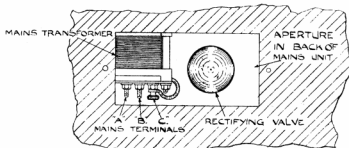

Fig. 2.
3. Adjust the connections to the Mains Power Transformer to suit the voltage of the supply mains. It will be seen that there are three terminal screws fitted to the underside of the Mains Transformer and on one of these is a milled terminal nut (see fig. 2). The flexible lead fitted with an eyelet which is temporarily secured by the milled terminal nut should be connected to the correct terminal screw to suit the voltage of the supply mains in accordance with the following table (see also fig. 2):—
4. Insert the H.T. Rectifying Valve (Philips 506K) in the holder in the Mains Unit, which is accessible through the aperture at the rear (see fig. 2).